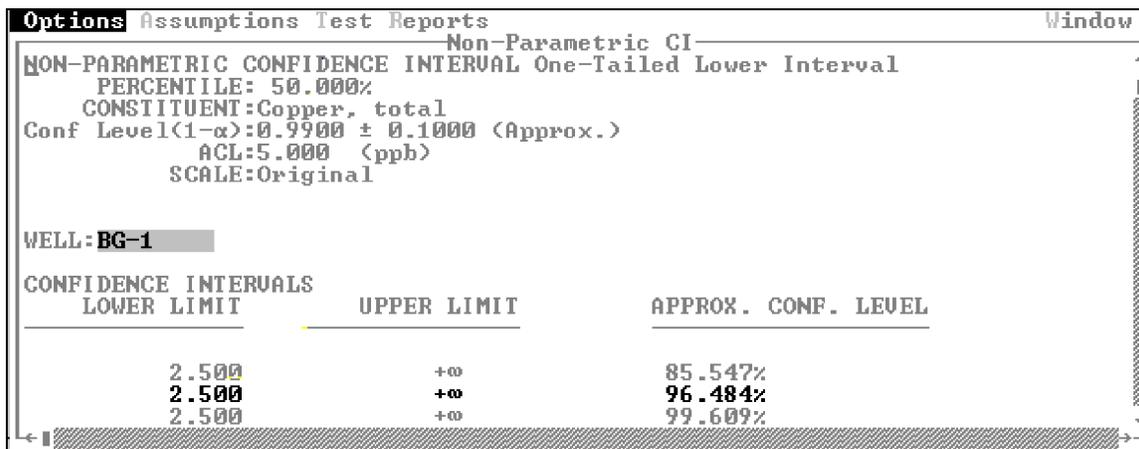

Figure 5-110. The Non-Parametric CI window.
- The first three options of the Test pull-down menu compute Non-parametric Confidence Intervals (Table 5-33). Upon execution the Non-parametric Confidence Intervals are displayed in the Non-Parametric CI window as shown in Figure 5-110. The statistics displayed for each Confidence Interval are described in Table 5-34.